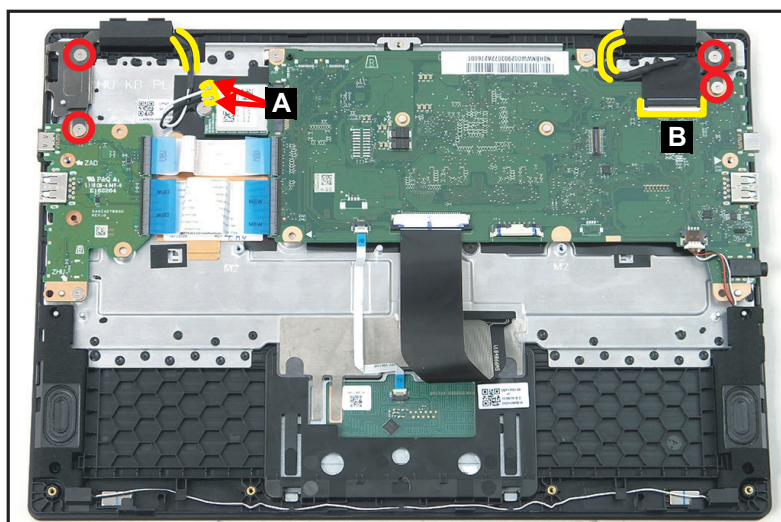

Figure 1-9. LCD Module Removal
1. Disconnect the WLAN antennas cables from the WLAN module connectors (A) (Figure 1-9).
2. Unthread the WLAN antennas cables from the routing channel (Figure 1-9).
3. Release the latch and disconnect the eDP cable from the mainboard connector (B) (Figure 1-9).
4. Unthread the eDP cable from the routing channel (Figure 1-9).
5. Remove four (4) screws securing the LCD module in place (Figure 1-9).